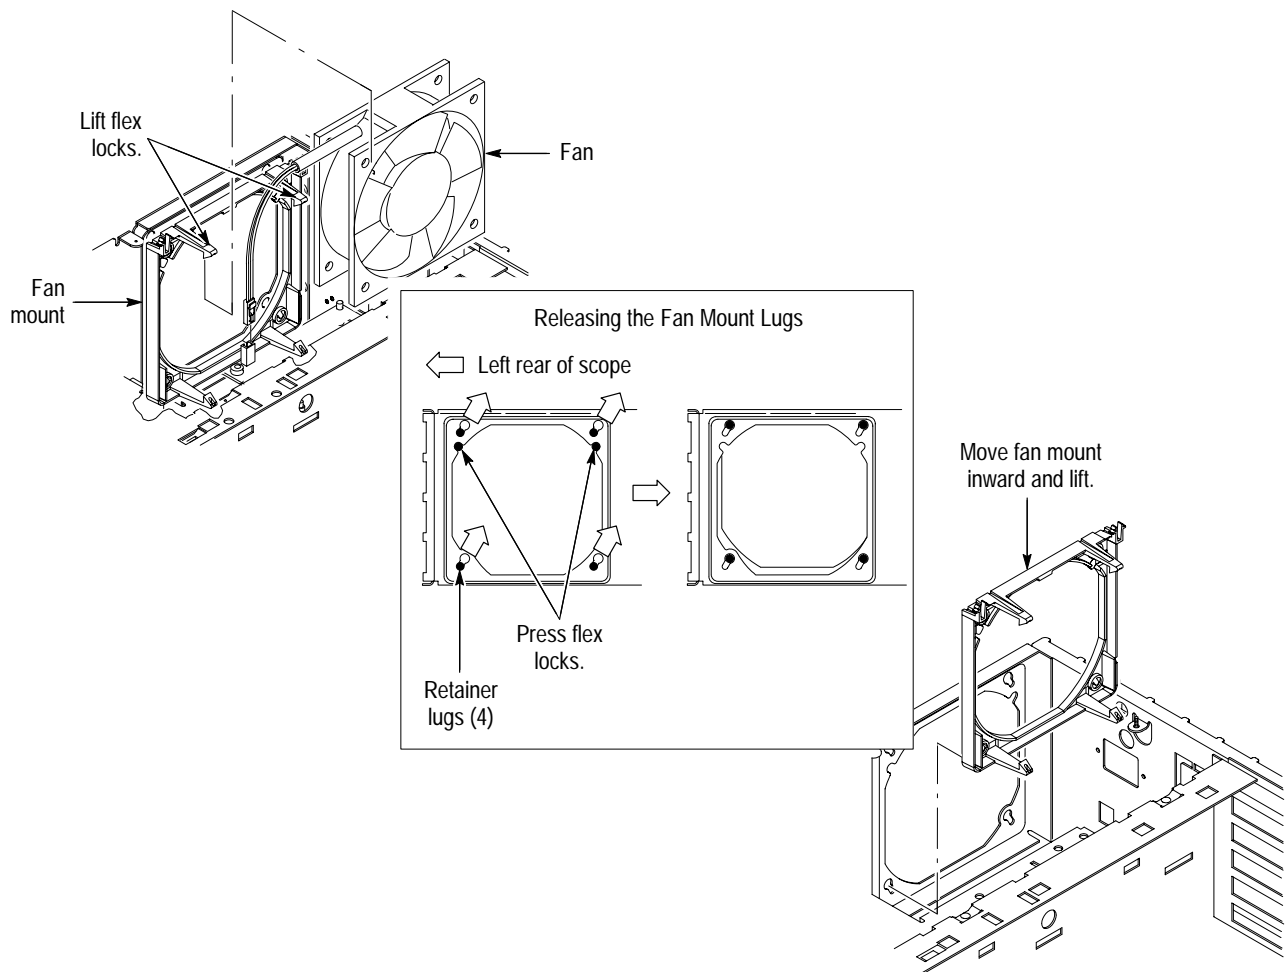

Figure 6–15: Fan and fan mount removal
3. Release the two flex locks securing the top of the fan to the fan mount, then lift the fan out from the top of the chassis (see Figure 6–15).